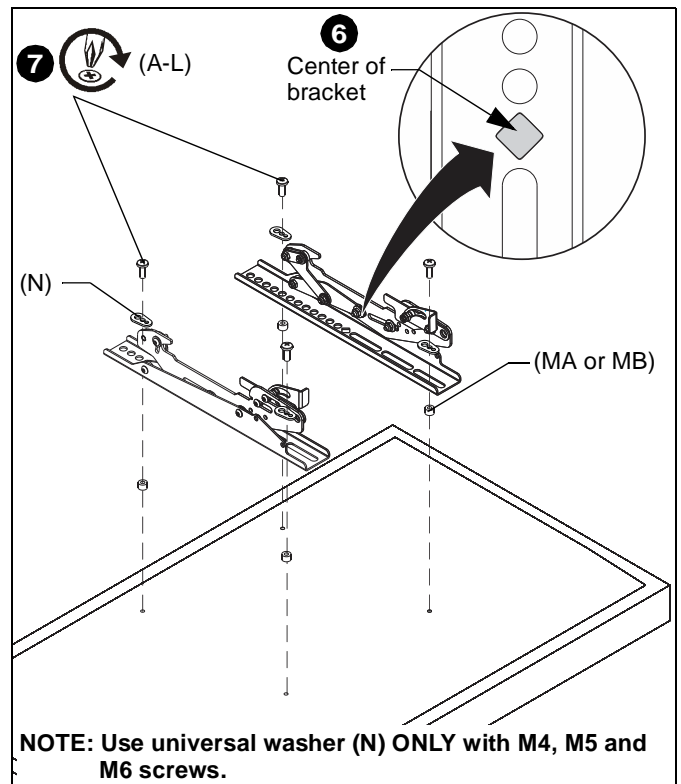

Figure 2
3. Select screw *diameter* by examining hardware (A-L) and comparing with mounting holes on display. (See Figure 2)
5. Select screw *length*: (See Figure 2)
6. Align the center of the interface brackets (R and S) with center of screen. (See Figure 2)
7. Use selected screws (A-L), universal washers (N-if required) and spacers (MA or MB-if required), to connect interface brackets (R and S) to back of display. (See Figure 2)